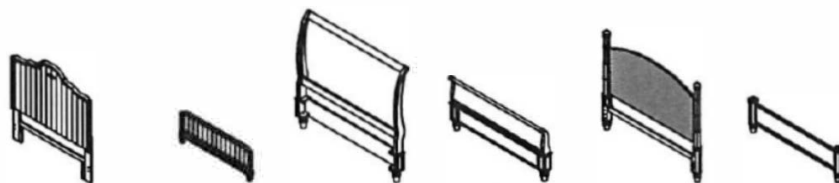

Figure 1
1. Screw the bolt (B) into the threaded insert of the Headboard post.
2. Then slide bed rail over the bolts until they are visible in the holes on the inside of the rails. Attach bed rail to the Headboard post by using Hexagonal Nuts + Curved Washers (A) and tighten all nuts with Spanner Wrench (C).
3. Repeat the same for the Footboard. (See Figure 1)